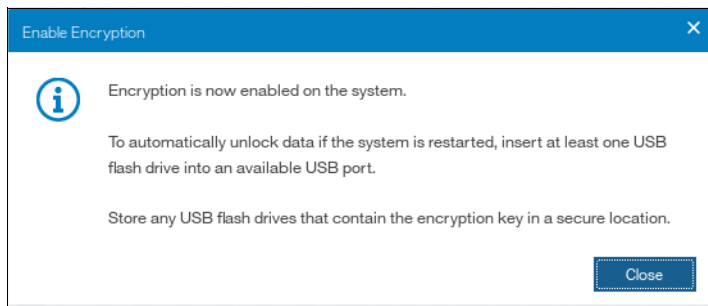

Figure 7-32 Encryption enabled message using USB flash drives
7. You receive a message confirming that the encryption is now enabled on the system, as shown in Figure 7-32.